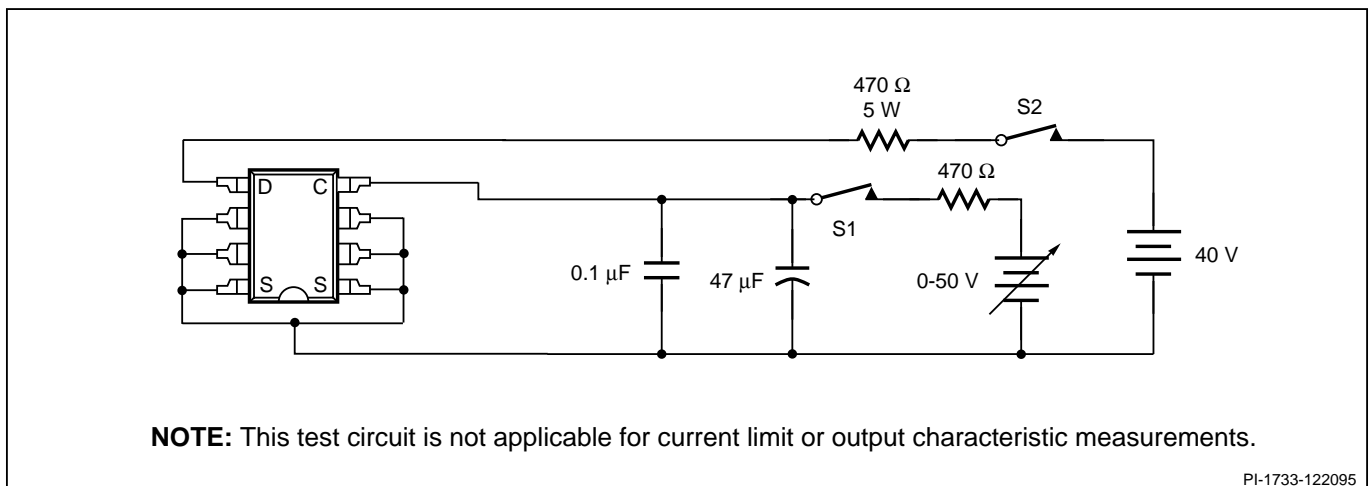

Figure 12. TOPSwitch General Test Circuit.
- B. The breakdown & leakage measurements can be accomplished by using the *TOPSwitch* auto-restart feature. The divide-by-8 counter in the auto-restart circuitry disables the output MOSFET from switching in 7 out of 8 cycles. To place the *TOPSwitch* in one of these cycles, the following procedure can be carried out using the modified circuit of Figure 12:
The following precautions should be followed when testing *TOPSwitch* by itself outside a power supply. The schematic shown in Figure 12 is suggested for laboratory testing of *TOPSwitch*.